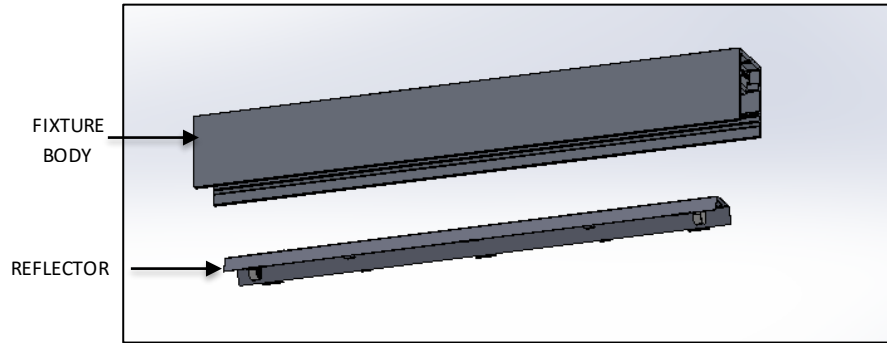

FIG. 8 – REFLECTOR INSTALLATION
6. Attach REFLECTOR, use a flat screwdriver to secure. as shown FIG. 8.